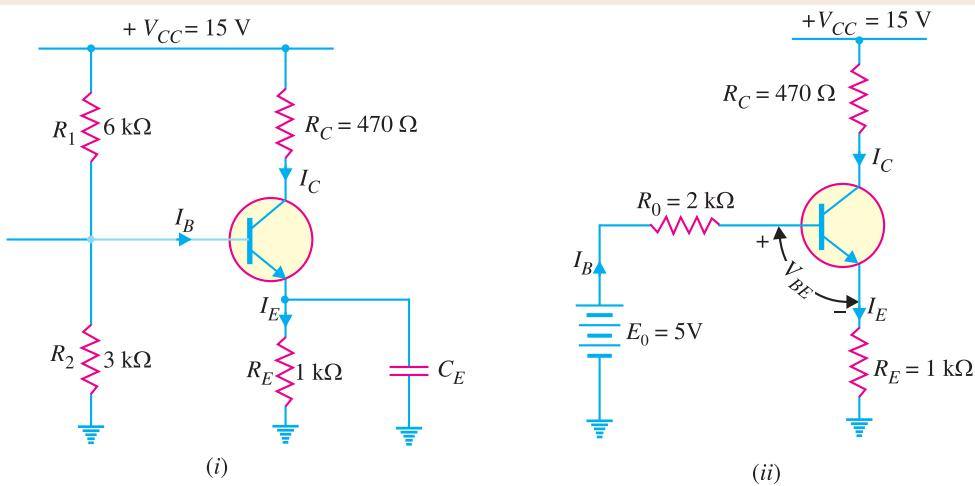

Fig 9.30
**Example 9.24.** The circuit shown in Fig. 9.30 (i) uses silicon transistor having  $\beta = 100$ . Find the operating point and stability factor.
**Solution.** Fig. 9.30 (i) shows the circuit of potential divider bias whereas Fig. 9.30 (ii) shows it with potential divider circuit replaced by Thevenin's equivalent circuit.